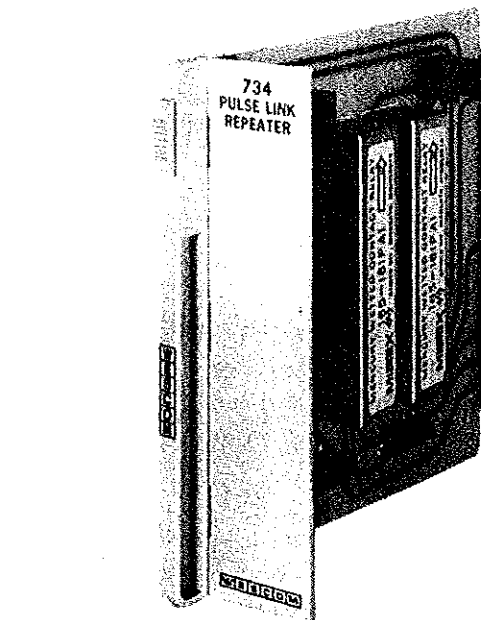

Figure 1. 734 Pulse Link Repeater
1.02 The 734 Pulse Link Repeater (Figure 1) is used to connect, in tandem two E&M type signaling units providing M-lead output signals in response to E-lead input signals. It also contains two solid state current limiter circuits which safely control the current of each M-lead output to a maximum of approximately 90mA.